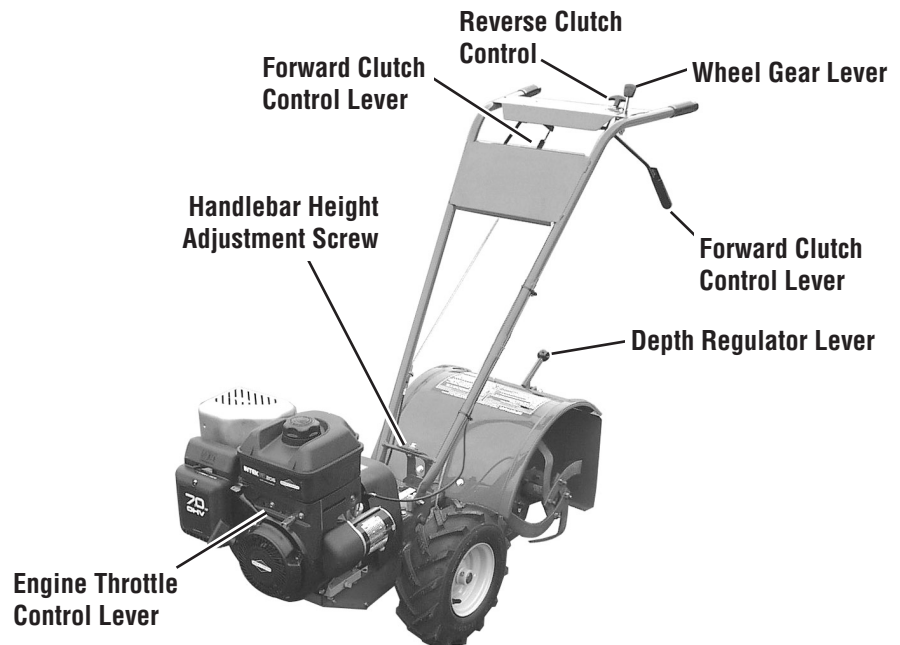

Figure 4-1: Location of main tiller controls.
The Engine Throttle Control Lever (located on engine--see Figure 4-1) is used to regulate the engine speed. On the recoil start model only, it is also used to stop the engine (on the electric start model, the electric start keyswitch is used to stop the engine). The throttle settings are shown below.
2. Put the Wheel Gear Lever (Figure 4-1) in the ENGAGE position.
5. Put the Engine Throttle Control Lever (Figure 4-1) in the "FAST" setting.